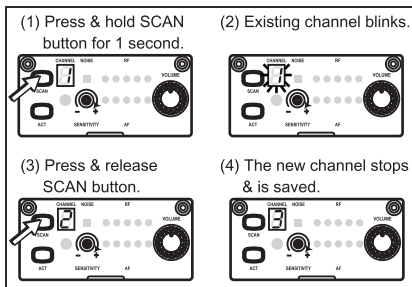

Fig. 2
- (A) Scan Automatically for a Receiver Channel: Press & hold SCAN button **6** for 1 second, channel number in LED screen starts blinking. Press and release SCAN button once will automatically scans the environment and stops at the next open, interference-free channel. The new channel appears on the display. Fig. 2
- Note: If SCAN button is not pressed within six (6) blinks during activation the channel number reverts back to the last default channel number.